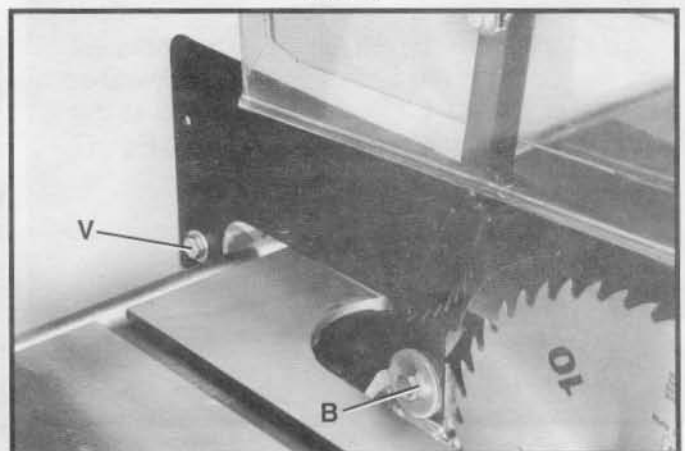

Fig. 29
13. **IMPORTANT:** For certain cutting operations such as dadoing and moulding where you are not cutting completely through the workpiece, the blade guard and splitter assembly cannot be used. Simply loosen screws (B) and (V) Fig. 29. Lift up and swing blade guard and splitter assembly to the rear of the saw. **CAUTION:** Always return the blade guard and splitter assembly to its proper operating position for normal thru-sawing operations.